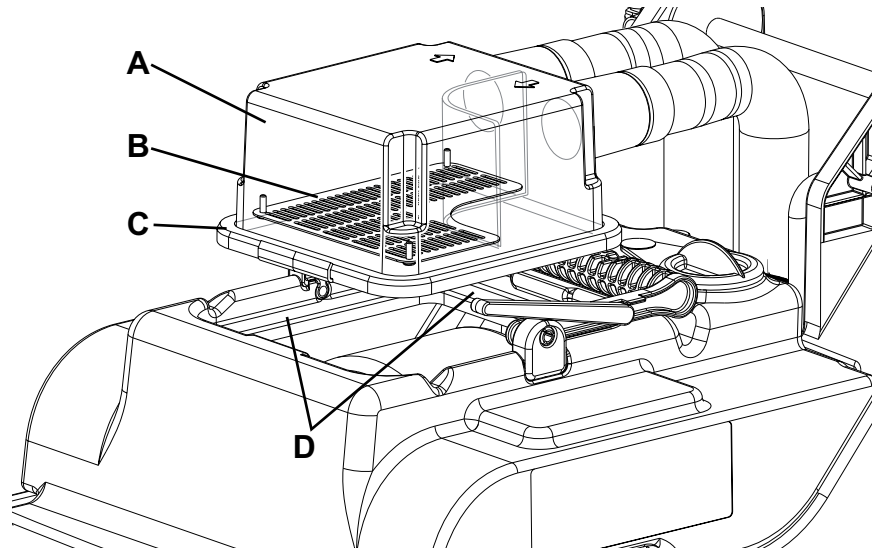

Figure 3
2. Make sure that the power supply cable (10) is disconnected from the electrical mains.
4. Open the transparent cover (A, Fig. 3) and clean it with care.